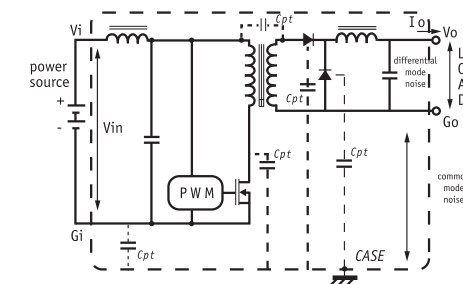

Fig 3 : Power converter output noise model with ground-case link
- The EMI reference can be the case of the converter if it is grounded (fig 3).